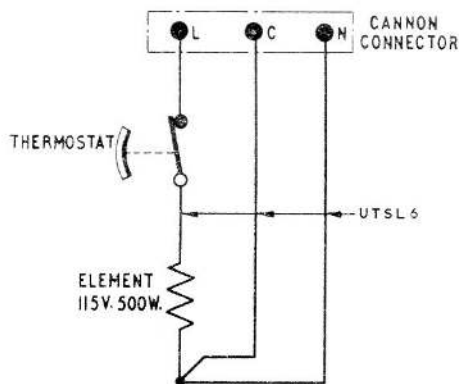

Fig. 1. Circuit diagram
1. This hotcup is essentially similar to the 28 volt hotcup, G.E.C., Type H.O.3384, details of which are given in Sect. 10, Chap. 2. The 115 volt version may be identified by the red handle and knob, and by the Cannon plug which is fitted in the inverted position with the locating spigot at the bottom. The inner container has a 115 volt heating element ◀ in series with a thermostat, which are connected to the two large pins of the Cannon plug by unitersil 6 cable. A circuit diagram is given in fig. 1. ▶ In all other respects this item is identical to the Type H.O.3384 hotcup and reference should be made to Sect. 10, Chap. 2.